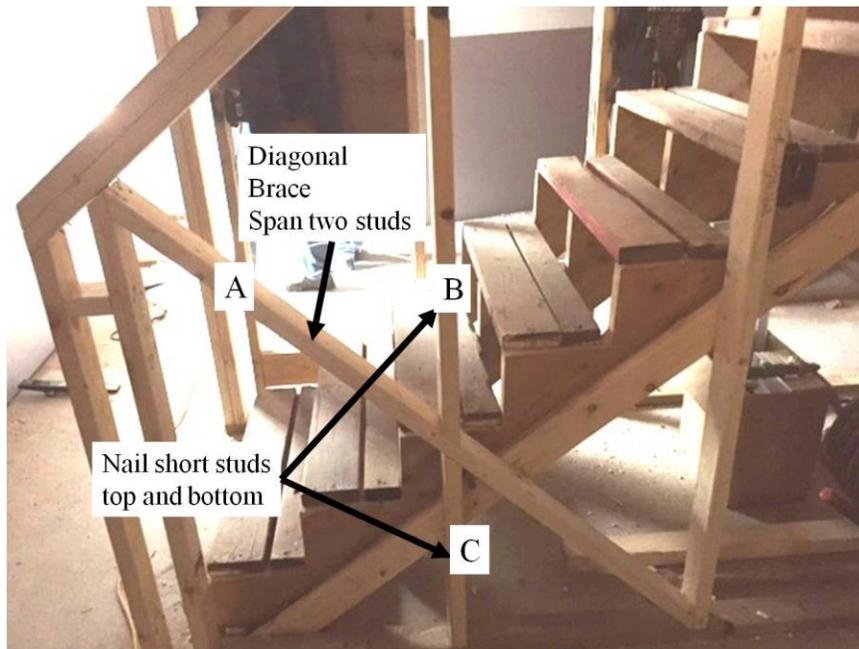

Figure 6-6. Stairway Wall Bracing.
7. To stiffen the wall, cut and nail an angled 2x4 brace between the bottom of the uncut stud and the top of the next cut stud, through the space where the stud was removed earlier (see "A" in Figure 6-6 above).
10. Measure and cut, at the same angle, two 2x4s to fit above and below the angled brace as shown in Figure 6-6, “B” and “C”, respectively. Toenail the lower (“C”) to the bottom plate and through the diagonal brace into the top. Nail the upper (“B”) through the upper plate into the top end and then through the diagonal brace into the lower end. Use two 3¼” Paslode nails at each location.